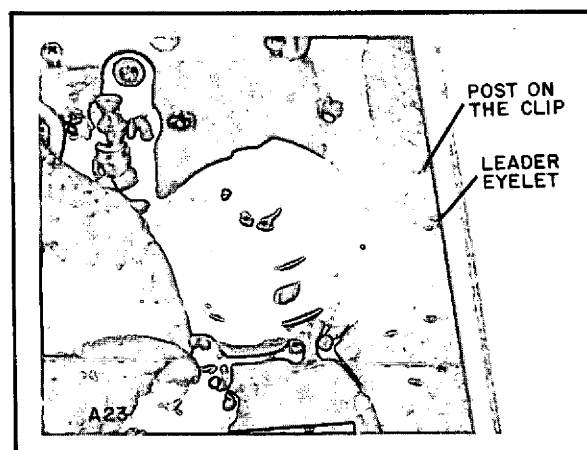

Fig. 4-7. Connecting the Leader Eyelet to the Post on the Clip
- i. Connect the leader eyelet to the post on the clip, making a loop, as pictured in figure 4-7. Make sure there are no twists in this loop.